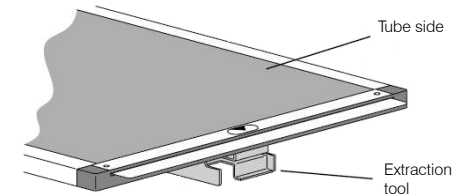

Figure 18-9: The edge of the screen emerging from the cassette
6. Insert the cleaning tray by pushing gently until it locks into place. (See figure 18-9)